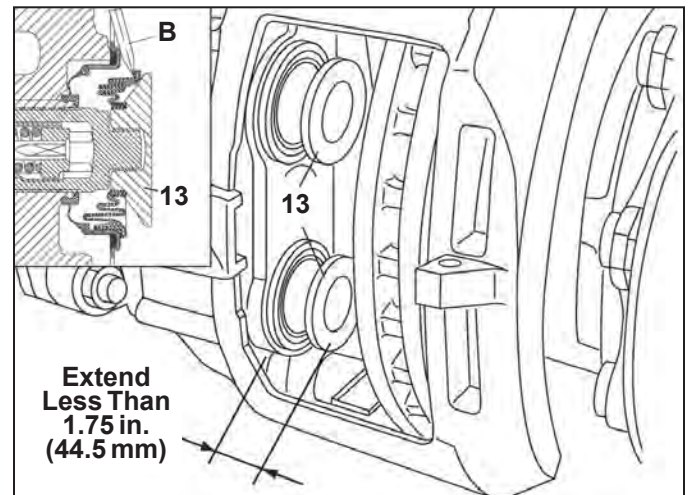
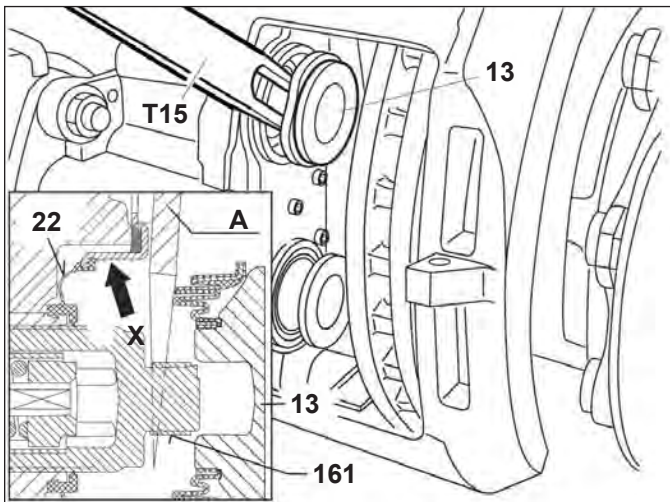
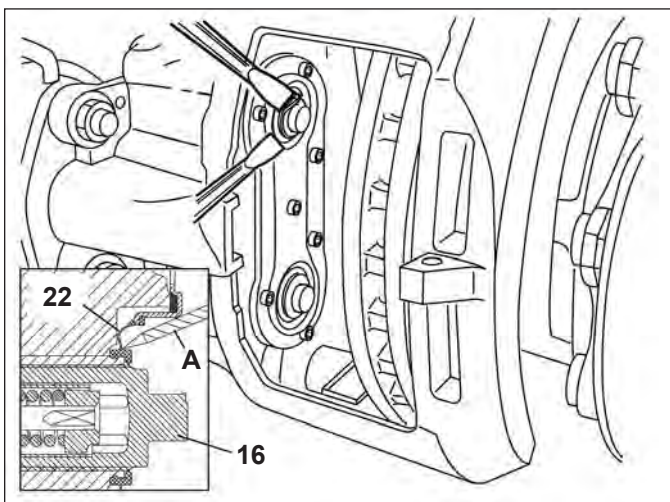

FIGURE 47 - PERMITTED TAPPET EXTENSION
FIGURE 48 - WEDGE TOOL USE
FIGURE 49 - INNER SEAL REMOVAL
CAUTION: NEVER EXTEND THE TAPPET MORE THAN 1.75 in. (44.5 mm). See Figure 47. Over-extending the tappet will result in the tappet losing engagement with the threads of the synchronizing mechanism. Since the mechanism can only be set at the manufacturing plant, the caliper/carrier assembly must be replaced if this happens.
5.5.5 See Figure 47. Extend the tappets — less than 1.75 in. (44.5 mm) — by turning the shear adapter (61) clockwise. A screwdriver (callout “B” in
Figure 47 inset) should be used to move the boot and allow the wedge fork (“A” in Figure 48) to be inserted. CAUTION: Do not insert the screw driver more than ¼ inch. Take care not to damage the inner sealing face (see arrow “X” in Figure 49). Gouges or grooves will prevent a good seal and will require that the caliper be replaced.
5.5.10 See Figure 49. Carefully remove the inner seal using one or two flat-blade screwdrivers as shown. Caution: Do not insert the screwdrivers so far that they come into contact with the threaded tubes. Damage to the threaded tubes would require that the brake be replaced.